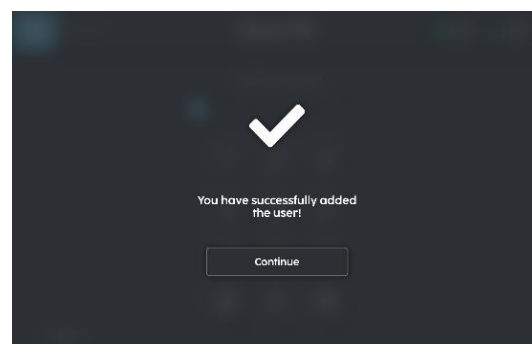

FIGURE 3-27
7. The user account setup is complete (Fig. 3-27).